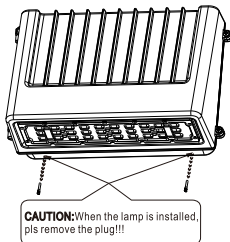

Fig. 1-6
- Caution: When the product is installed, pls remove the plug at the drain hole. As shown below. (Fig. 1-6)